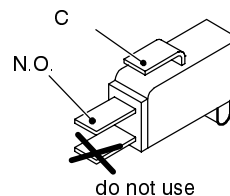

Fig. 59
- 2 Measure the electrical resistance between the tabs marked C. and N.O. (Fig. 59). The contact must be normally open.
- 4 Re-assemble the parts in reverse order of removal. Refer to Fig. 59 for the correct wiring connectors on the switch